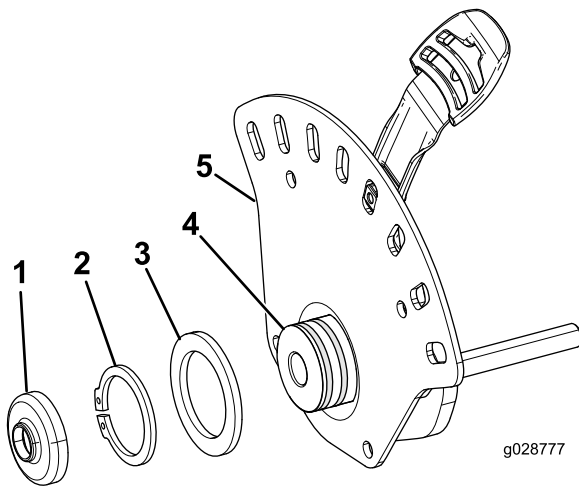

Figure 3
5. Remove the retainer cover, retaining ring, and washer from the height-of-cut plate (Figure 3).
8. Install the washer, retaining ring, and retainer cover on the height-of-cut plate (Figure 3).